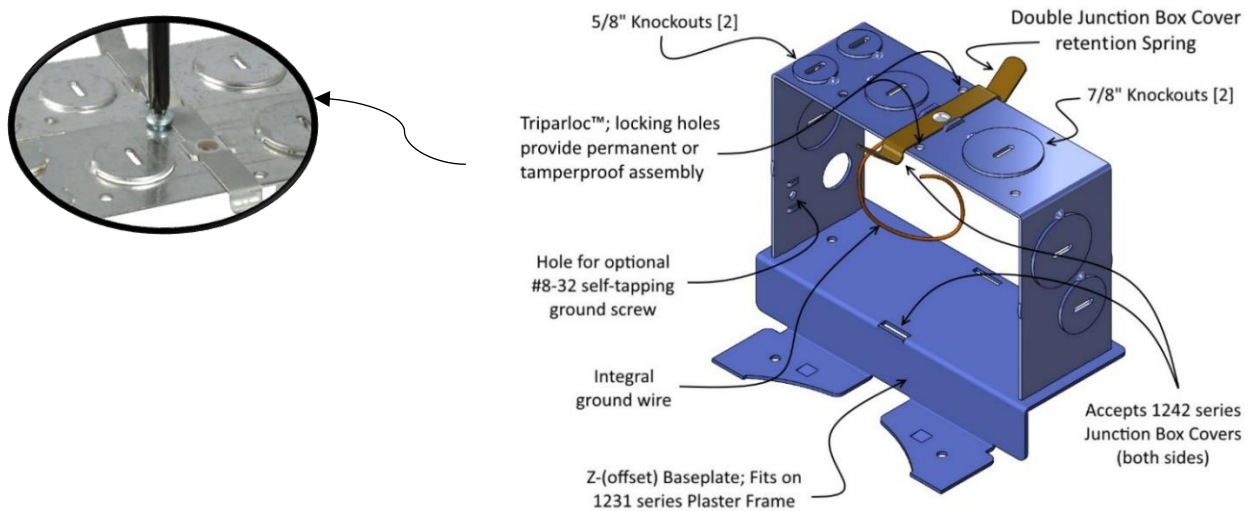

Fig. 33 Tripar's 1232-10 junction box
- The 1232-X series junction boxes that contain the Z-shaped baseplate (ref figure 33).